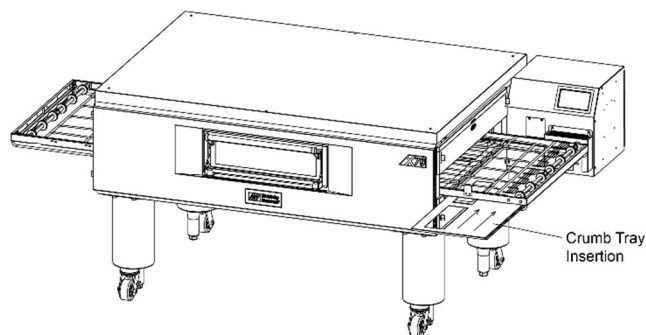

Figure 25. Crumb Trays
1. Install the crumb trays underneath the conveyor as shown in Figure 25.